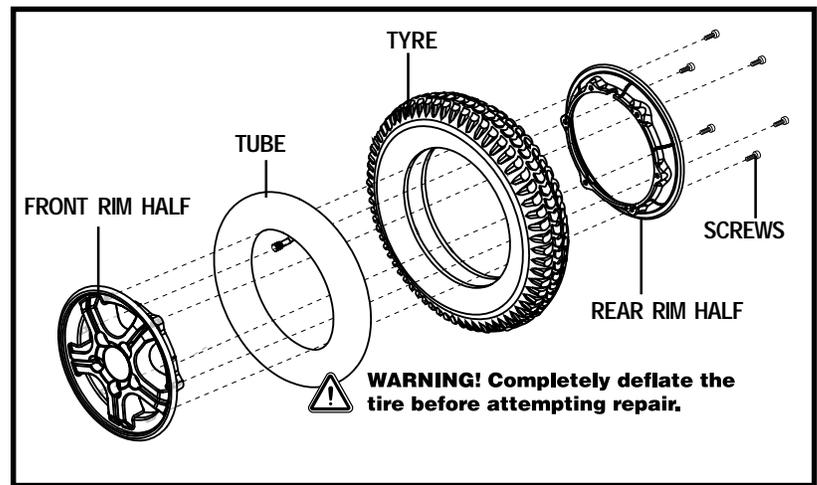

Figure 23. R-4000 Series Drive Wheel Disassembled
6. Remove the screws and separate the front and rear rim. See figure 23.
10. Reinstall the five (5) lug nuts and tighten.